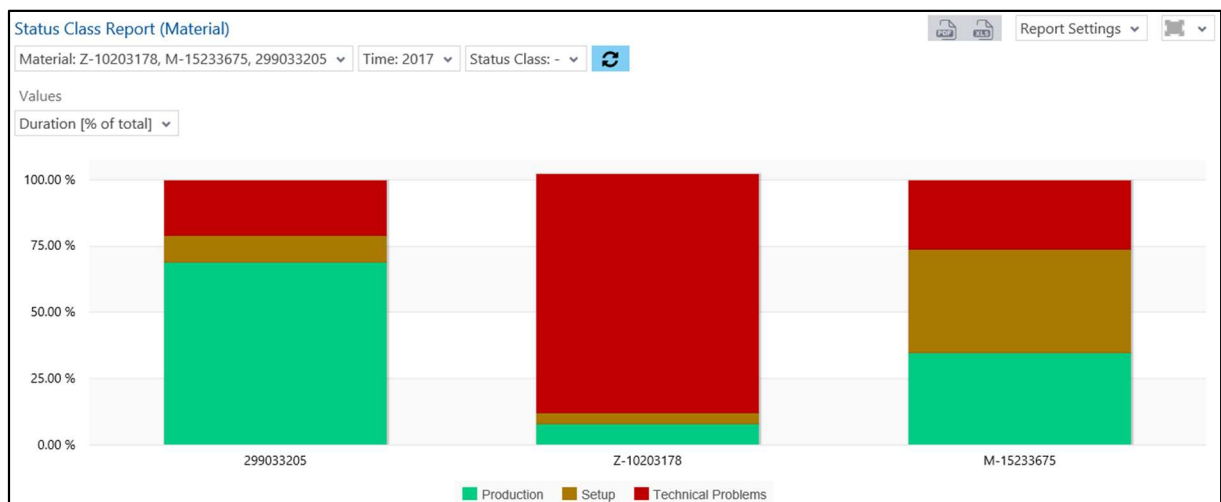

Fig. 63: Operating State Class Report (Material) as a column chart
- Operating State Class Report (Material) as a column chart (Fig. 63):